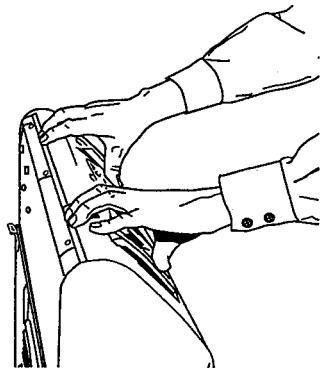

Figure 4-2
4. Grasp the top of the console and gently rock the top of the console forward. (See Figure 4-2)